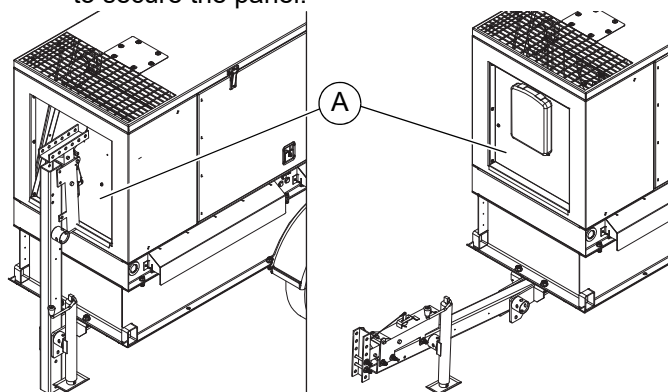

Figure 1-3. Lowering Trailer Tongue
6. See Figure 1-3 Remove the mounting hardware from the front hood actuator clearance hole panel (D). Tilt the panel forward. Reinstall the hardware to secure the panel.